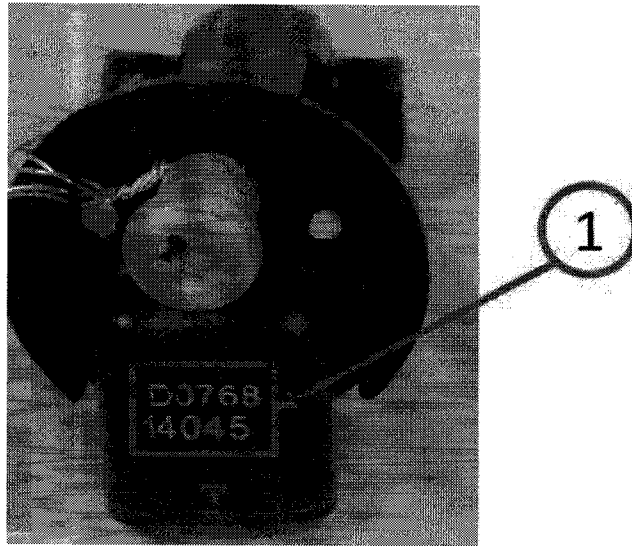

Fig. 2 Camshaft Position Sensor
3. Inspect and record the serial number stamped on the top of the sensor. See (Fig. 2).